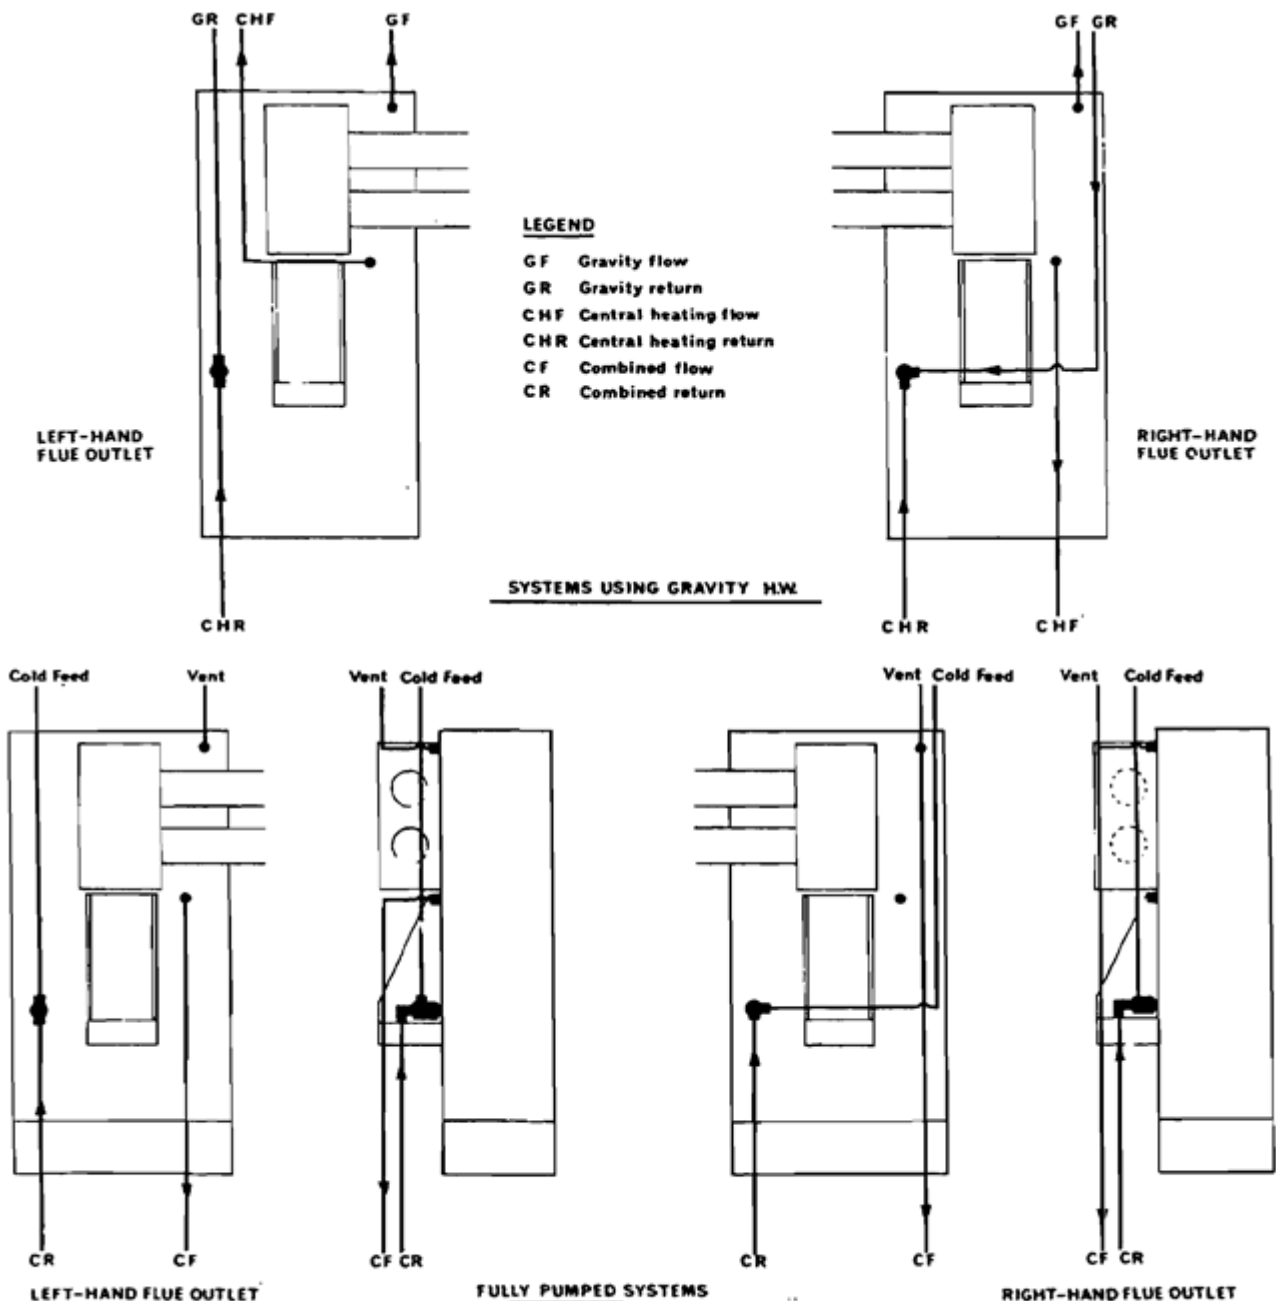

Fig. 8 SUGGESTED PIPEWORK VIEWED FROM BEHIND BOILER
The boiler is designed so that all pipes can be hidden within its own width except where they leave the boiler at top and/or bottom. Because the water connections are behind the boiler backplate, short lengths of pipe will have to be connected to some of the tappings to be used before the boiler is lifted into position, and terminated in a position suitable for connecting to the system pipework; it is recommended that copper capillary connections are used. Although it is possible to install the boiler and its pipework with only access from the front, it is very much easier with access from at least one side. This access is not necessary for maintenance which can be carried out from the front only. The injector tee and special nozzle elbow will first have to be positioned and both joints made sound. Pipe runs must be kept clear of the areas where the plenum chamber is to be fitted and where the air inlet and flue ducts will be located if a side outlet is being used. Connections which can be used and suggested methods of running pipework behind the boiler are shown in Fig. 8. Any pipe tails running downwards from behind the boiler should not protrude below the bottom of the wooden feet. Refer to Figs. 12 to 15 for diagrams of typical systems to which the boiler can be connected.
- (1) Using Fig. 8 as a guide, decide on the best pipe run at the rear of the boiler to suit the particular system.
- (2) Connect a suitable length of 28mm pipe to the domestic hot water flow connection.
- (3) Connect a suitable length of 22mm pipe to the heating flow connection. There is space behind the boiler to split the flow if necessary. The central heating circulating pump can be fitted above or below the boiler on either the flow or return as required.
- (4) Fit the injector tee and the special nozzle elbow to the boiler combined domestic hot water/central heating return connection. The 1 in. BSP side outlet in the tee for the gravity domestic return can be located in any convenient position through 360° simply by rotating the tee in its connection; this will enable it to be connected to the domestic return pipework, irrespective of the direction from which the pipework is routed. The same applies to the special nozzle elbow which must be screwed into the back of the tee; the connection in the elbow is 22mm and should be used for the heating return. When the elbow has been screwed into the tee, it should not protrude more than 95mm (3¾ in.) from the boiler backplate or it could foul the wall behind the boiler.
- (5) Connect suitable lengths of pipework to the tee and the elbow as necessary. There is space behind the boiler to combine the two heating circuits if required.
- (2) When connecting the flow pipework, it is only necessary to use one flow connection, preferably the upper 1 in. BSP with the lower ¾ in. connection being blanked off. However, in